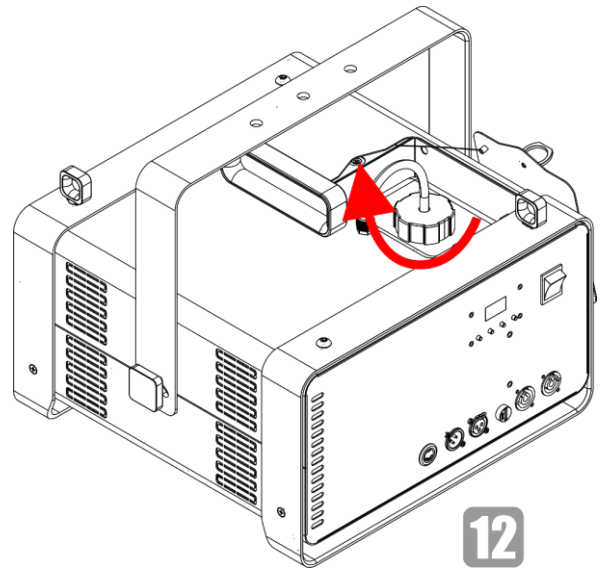

Fig. 18
- 12) Screw the lid back on the fluid tank, as shown in Fig. 18.